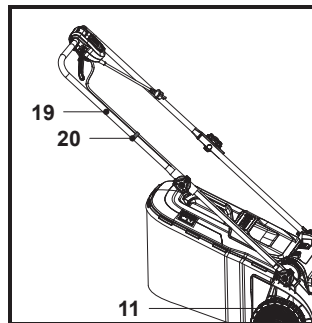

Fig. 4
6. Attach the control cord (19) with the cord clip (20) (Fig. 4).